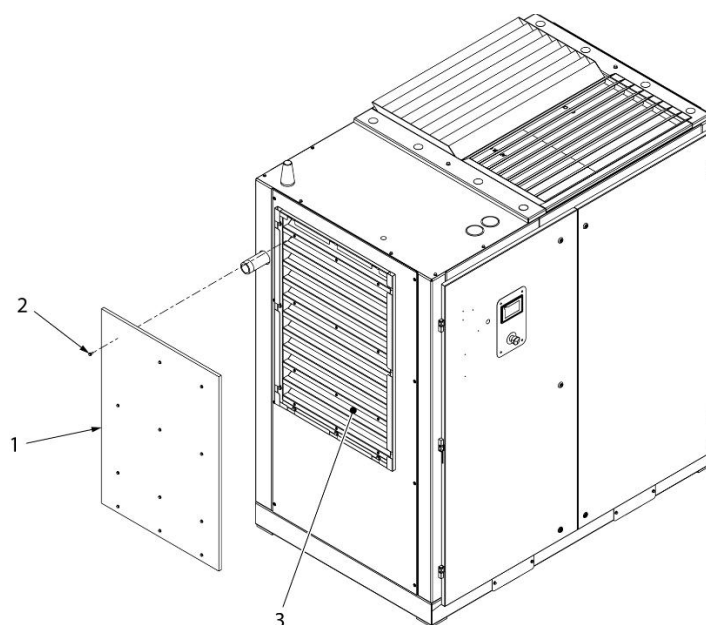

Figure 2-2
1. Remove the mounting screws (-2- Fig. 2-2).
2. Take out the Filter Mat (-1- Fig. 2-2) and clean it, replace it if damaged. Clean the Filter Mat by brushing or washing.
3. Return the Filter Mat to the silencer chamber (-3- Fig. 2-2).